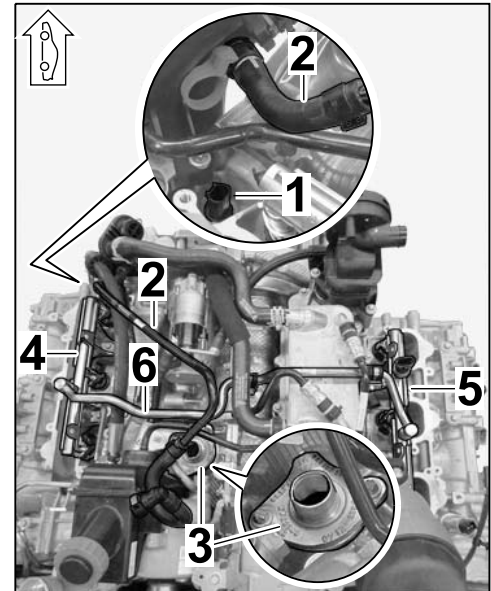

Figure 11
Position and fit new oil filler neck on the crankcase (⇒ *Figure 11 -3-*).
2.3.9 Install fuel collection pipe and fuel injectors (6 x) with new Teflon seals (6 x) (⇒ *Workshop Manual '243019 Removing and installing fuel collection pipe with fuel injectors'*, ⇒ *Figure 11*).